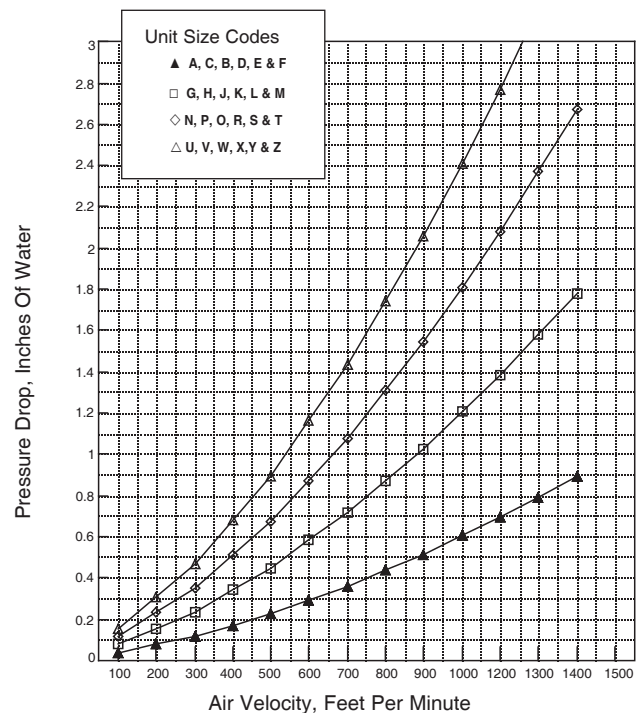

Figure 74.
**Pressure drop** through the heater can be determined by using Figure 74 for the 227 Series duct heater.